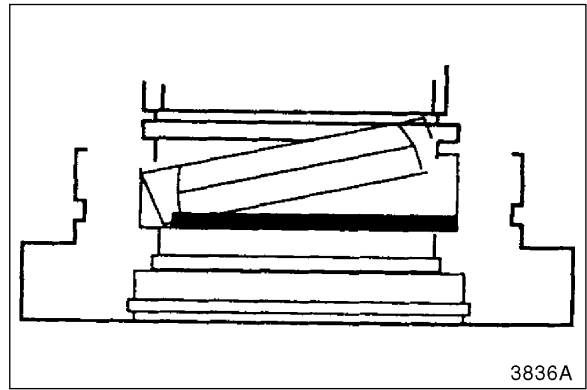

Figure 17
3. Insert one side of U-packing in its groove. See Figure 17.